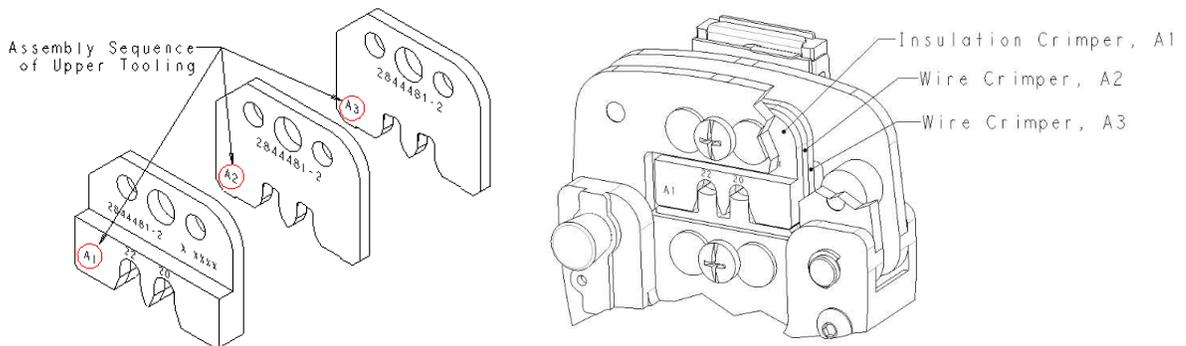

Figure 5
3. Verify that all tooling components to be installed are marked with the same die part number. Stack the components together in the proper sequence and orientation (see Figure 5), and then slide them into the Upper Tooling Holder.